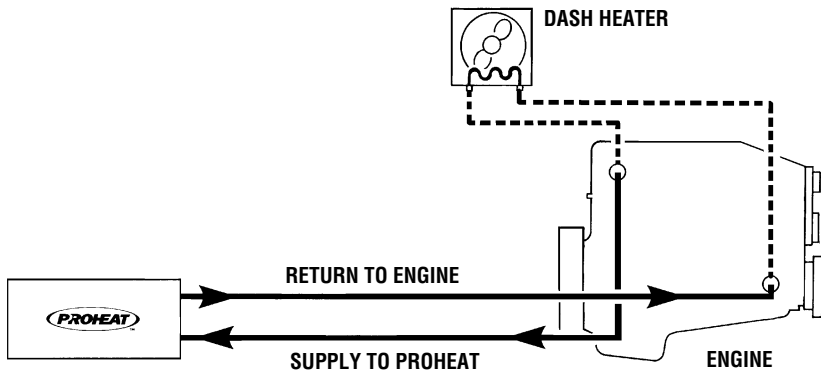
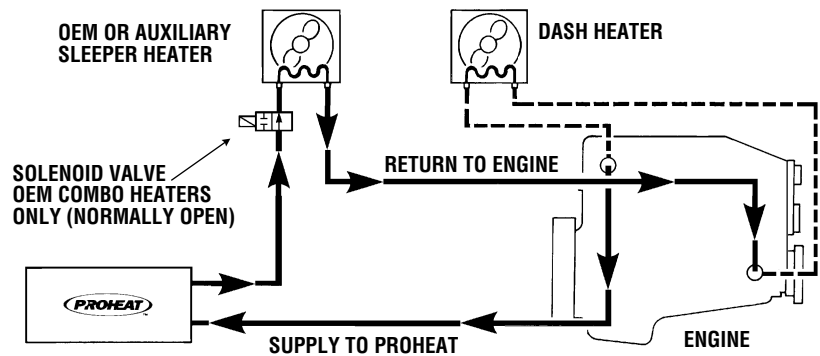

Figure 3-13 Engine Heat or Supplemental Heat
Figure 3-15 Engine and Sleeper Heat
3. Plumb the system as per *Figure 3-13* or *Figure 3-15*